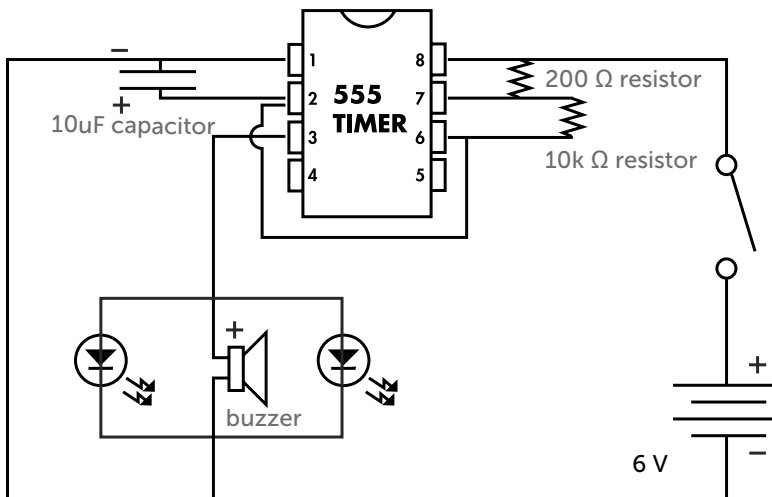
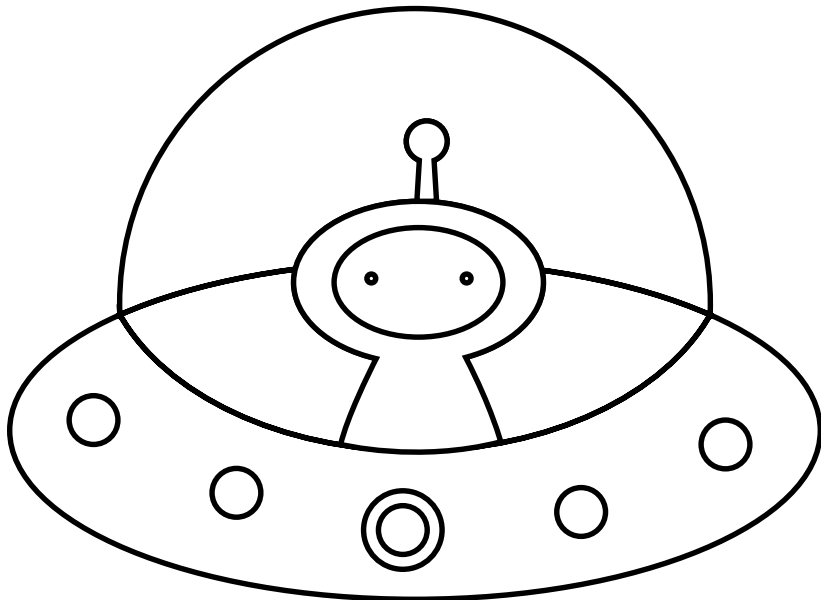

FIGURE 8.5: The 555 timer circuit for blinking LEDs and beeping a buzzer
FIGURE 8.6: The front of our UFO project
The circuit diagram in Figure 8.5 shows how to blink two LEDs using a 555 timer, a 10 microfarad (μF) capacitor, a 200
ohm resistor, and a 10,000 ohm (10k ohm) resistor. The 10k ohm resistor, shown here between pins 6 and 7, is used to control the rate of blinking. If you increase the size of that resistor, the blinking will slow down. As shown in Figure 8.5, you can also add a buzzer in a parallel circuit with two LEDs to make your UFO beep as well as blink.
The circuit in Figure 8.5 makes two LEDs blink and a buzzer make a beeping sound. What suitable project ideas can you come up with that blink and beep? Use your imagination. In our example project, we are going to make a UFO. Make a life-size sketch of your project like the one in Figure 8.6.
20. Once you're done connecting the pins, double-check that all your parts are connected and in the right places by carefully comparing the circuit diagram in Figure 8.5 and your circuit, which should look similar to this illustration.